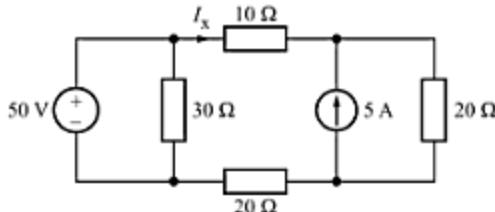

Fig. 4.35
- Determine the current I_x through the $10\text{-}\Omega$ resistor in Fig. 4.35, using superposition theorem.